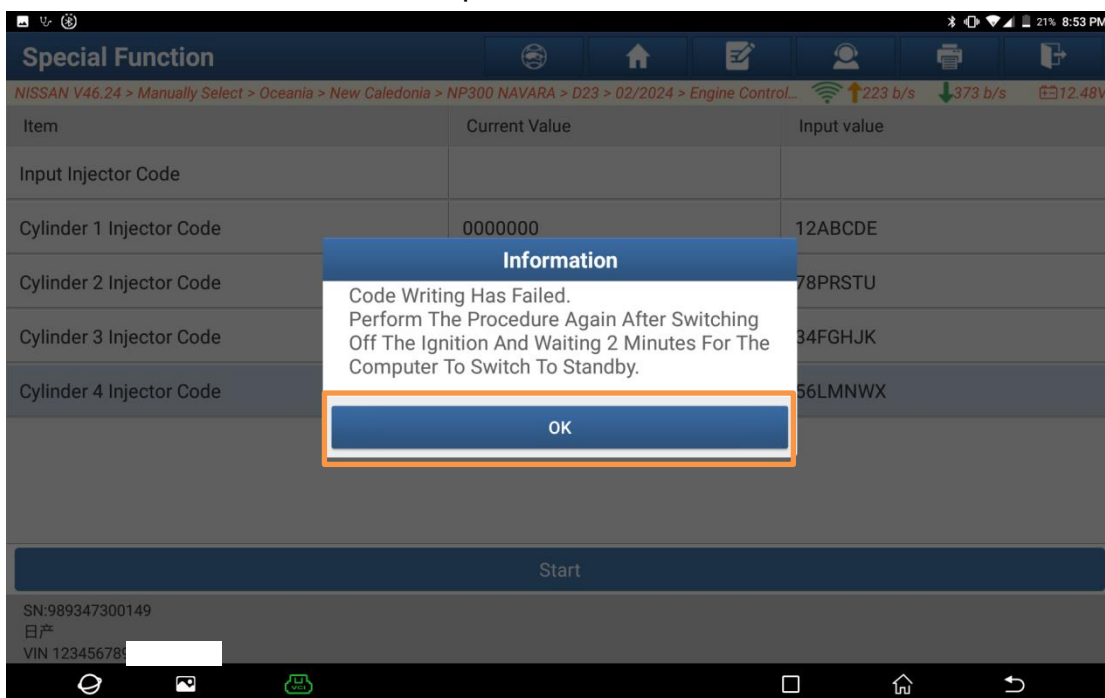

Figure 18
11. After the program execution is completed, if a pop-up window indicates that the writing fails, as shown in Figure 18, the writing operation is unsuccessful. Click [OK]. Then, according to the pop-up prompts, turn off the ignition and wait for 2 minutes to allow the computer to enter standby mode. Then, restart from Step 9.